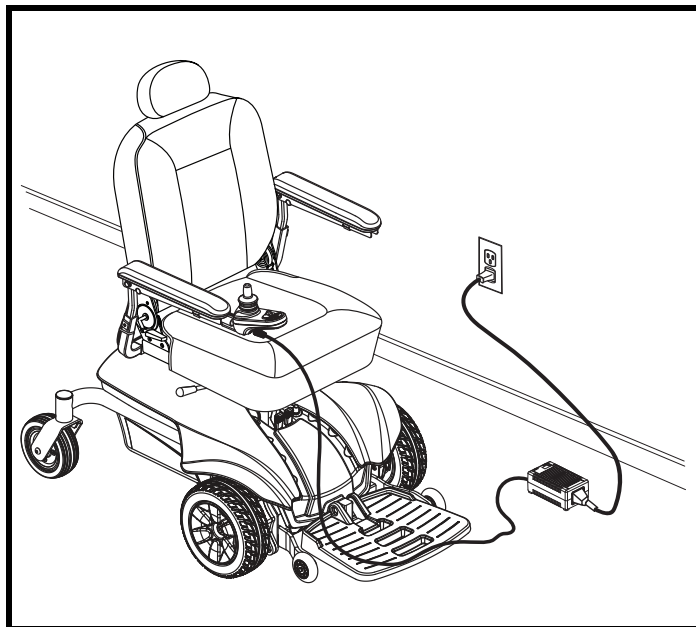

Figure 19. Battery Charging
1. Position the front of your power chair next to a standard electrical outlet. See figure 19.
3. Plug the off-board charger into the off-board charger/programming socket on the controller. See figure 19.